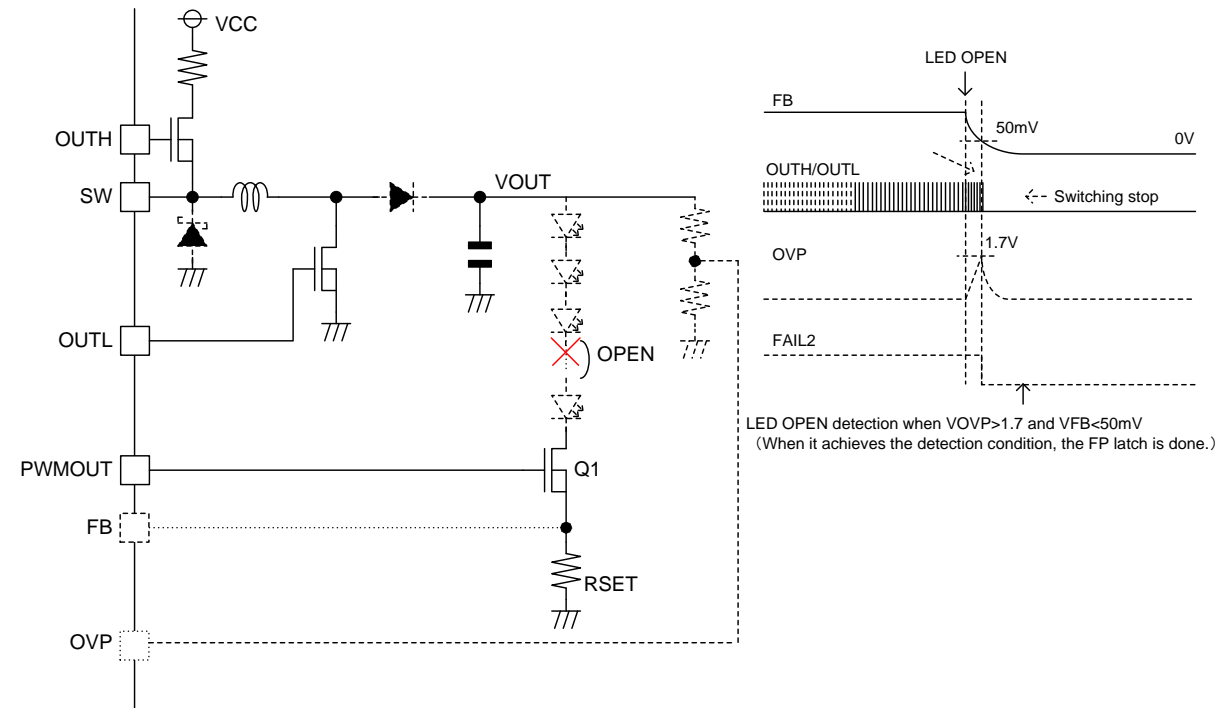

Figure 34
**(8) LED Open Detection(Following Figure 34 in P.20)**